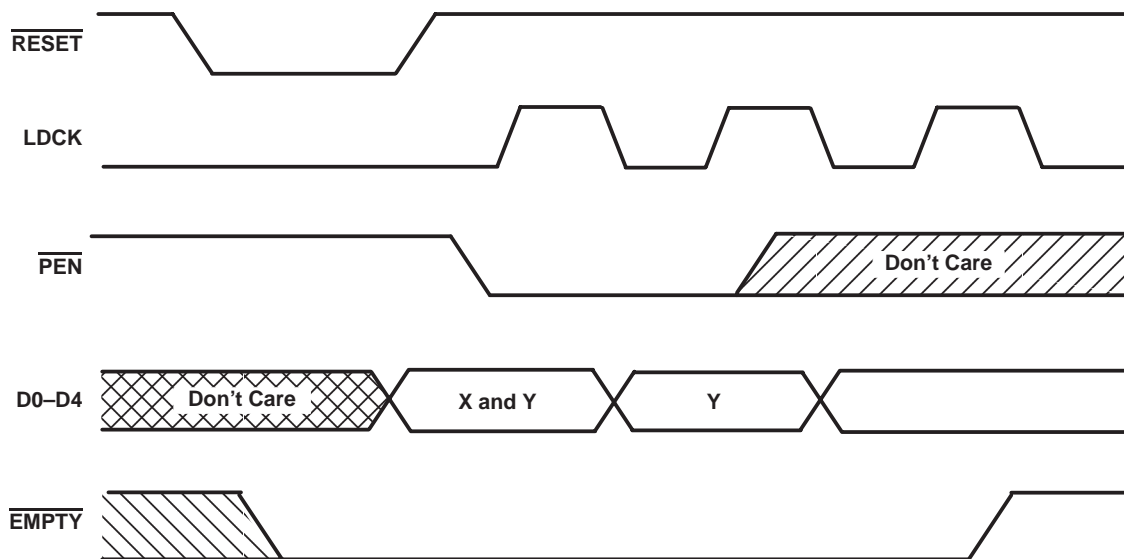

Figure 1. Programming X and Y Separately
To program the offset values,  $\overline{\text{PEN}}$  can be brought low after reset only when LDCK is low. On the following low-to-high transition of LDCK, the binary value on D0–D4 is stored as the almost-empty offset value (X) and the almost-full offset value (Y). Holding  $\overline{\text{PEN}}$  low for another low-to-high transition of LDCK reprograms Y to the binary value on D0–D4 at the time of the second LDCK low-to-high transition. Writes to the FIFO memory are disabled while the offsets are programmed. A maximum value of 31 can be programmed for either X or Y (see Figure 1). To use the default values of X = Y = 8,  $\overline{\text{PEN}}$  must be held high.
### timing requirements over recommended operating conditions (see Figures 1 through 3)